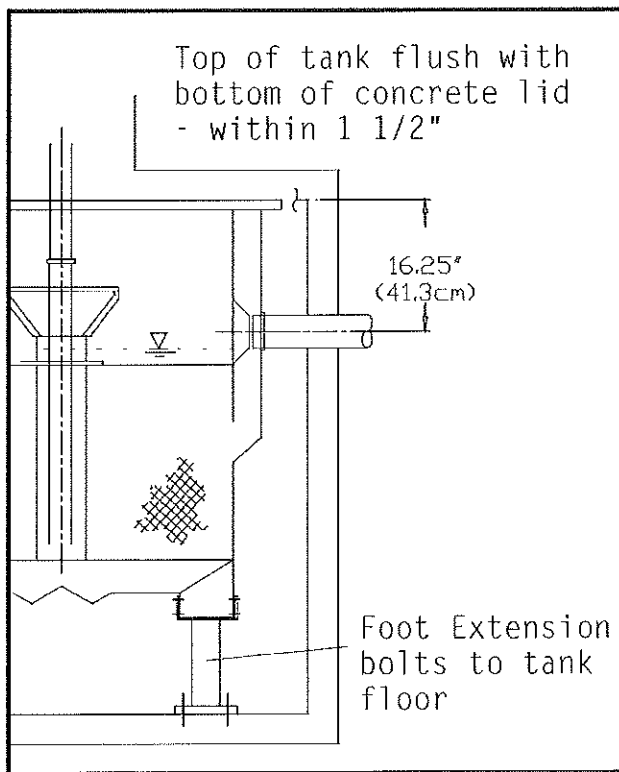

FIGURE 3
2. **Option B: LEG EXTENSIONS** (See FIGURE 3 shown below) – Four leg extensions attach to the 4
NOTE: When leg extensions are used, the air supply line must be secured to the access riser as shown in FIGURE 3 below.